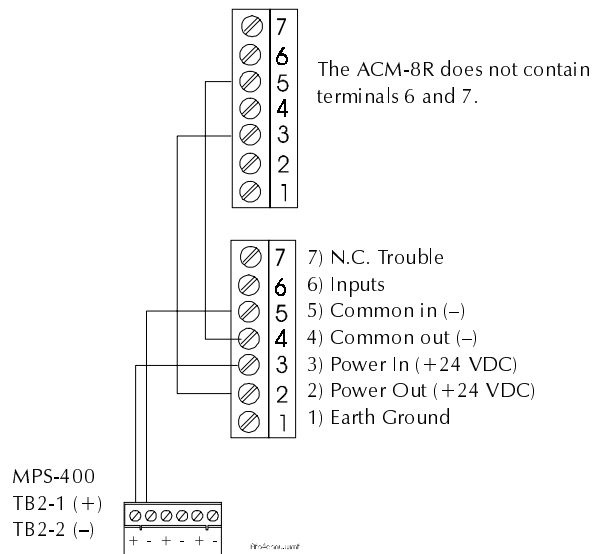
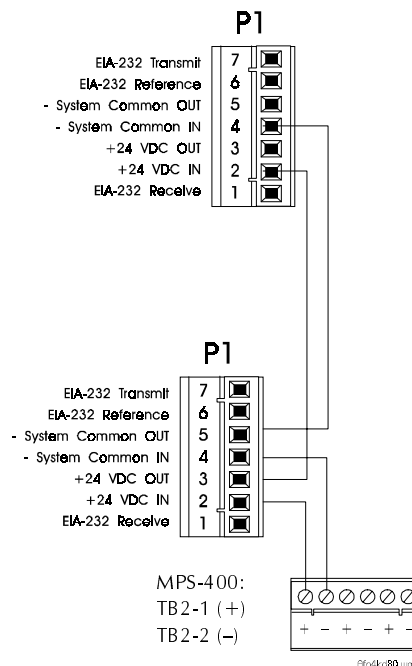

Figure A-3 Power Connections for LCD, ACS Type Annunciators
Figure A-4 Power Connections for LCD-80s
- Each LCD-80 must connect to regulated 24 VDC power. Power an LCD-80 from the MPS-400 power supply or a separate UL-listed power supply (For power connections, see Figure A-3 on page A-15.)
An LCD-80 operated in ACS mode connects to TB4 on the CPU using a power-limited EIA-485 circuit. Figure A-3 shows power connections for LCD-, ACM-, and ACS-type annunciators; and Figure A-4 shows power connections for LCD-80s. The following guidelines apply to Figure A-3 and Figure A-4:
Figure A-4 shows typical power connections for LCD-80s: